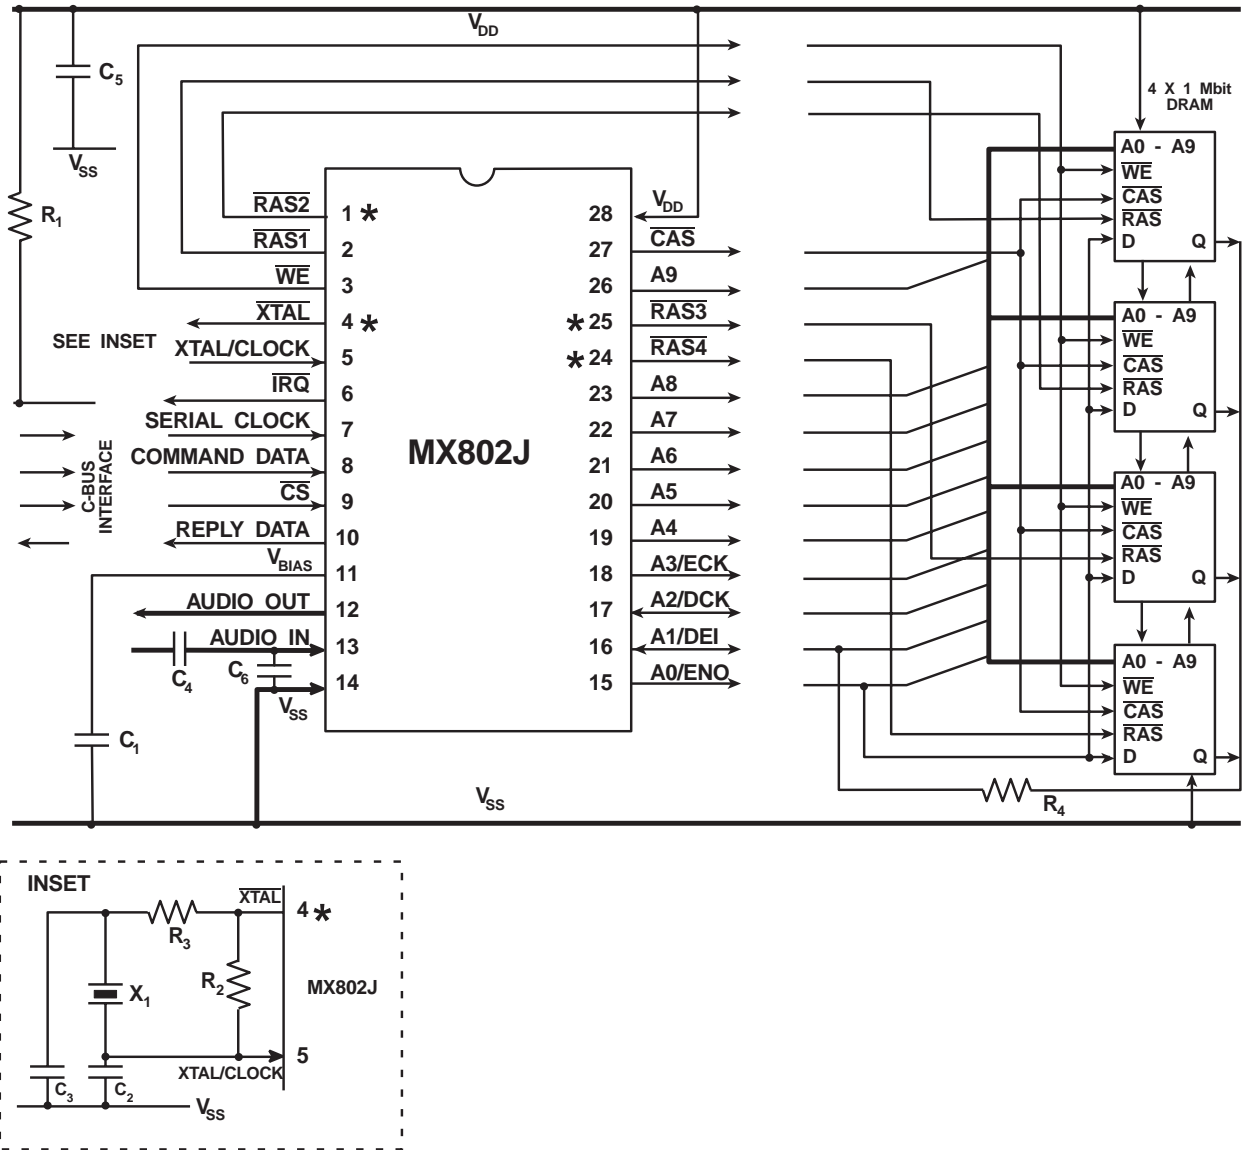

Figure 2: Recommended External Components
| 5 | 3 | Xtal/Clock | This is the input to the on-chip clock oscillator inverter. A 4.0MHz Xtal or externally derived clock should be connected here. See Figure 2. This clock provides timing for on-chip elements, filters, etc. A Xtal cannot be used with the 24-pin version. Various Xtal frequencies can be used with this device. See Table 5 for Sampling Rate Variations. |
| 11 | 9 | V_{BIAS} | This is the output of the on-chip analog circuitry bias system, held internally at $V_{\text{DD}}/2$. This pin should be decoupled to V_{SS} by capacitor C1. See Figure 2. |
3. Functions whose pins are marked with an asterisk (*) in Figure 2 are not available on the 24-pin/lead versions of this device. Pin numbers illustrated are for 28-pin versions.
7. Figure 2 shows connections to 4x1 Mbit sections of DRAM. If desired, to simplify PCB layout, the DRAM inputs A0-A8 may be connected in any order to the MX802 DVSR Codec output pins A0-A8. Connections to 256kbit DRAM are similar, but A9 is left unconnected.